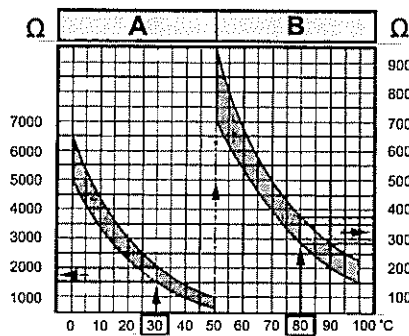

Fig 14 Set-point values
20.10 Referring to the set-point diagram (see Fig 14), area A shows the resistance values for the temperature range 0 through 50 °C; area B shows the resistance values for the temperature range 50 through 100 °C. For example, a read-out of 30 °C corresponds to a resistance of 1500 to 2000 Ω , whereas a readout of 80 °C corresponds to a resistance of 275 to 375 Ω .